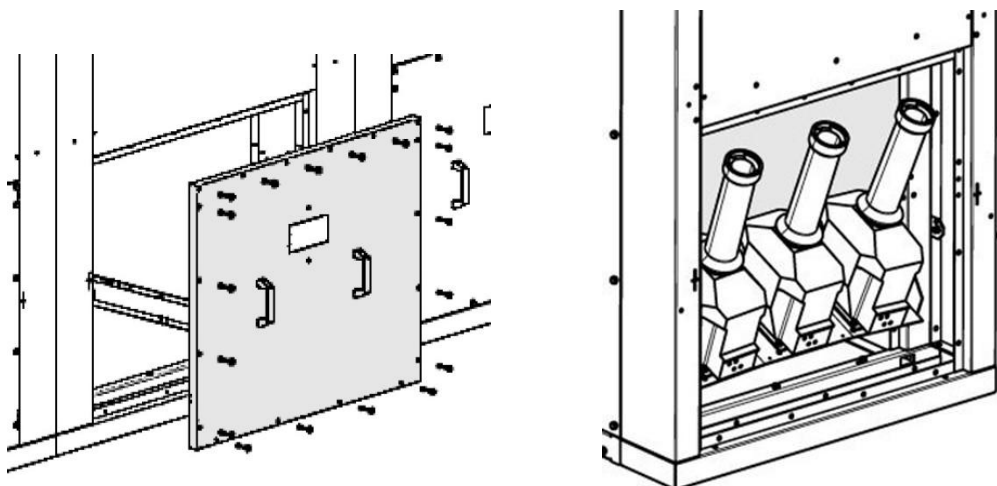

Fig93. Removing the rear cover
- ⇒ Remove the rear cover by means of the handles (fig93).